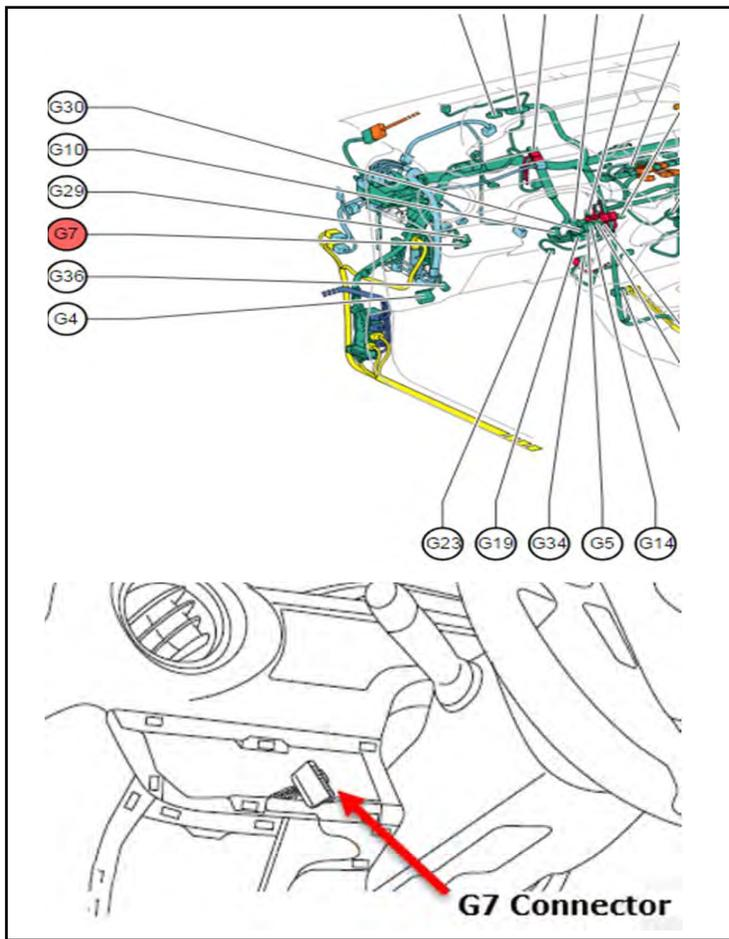

Figure 17a
17. Locate white outer mirror remote switch connector G7 (10 pin) in the lower dash panel. See figures 17a and 17b.